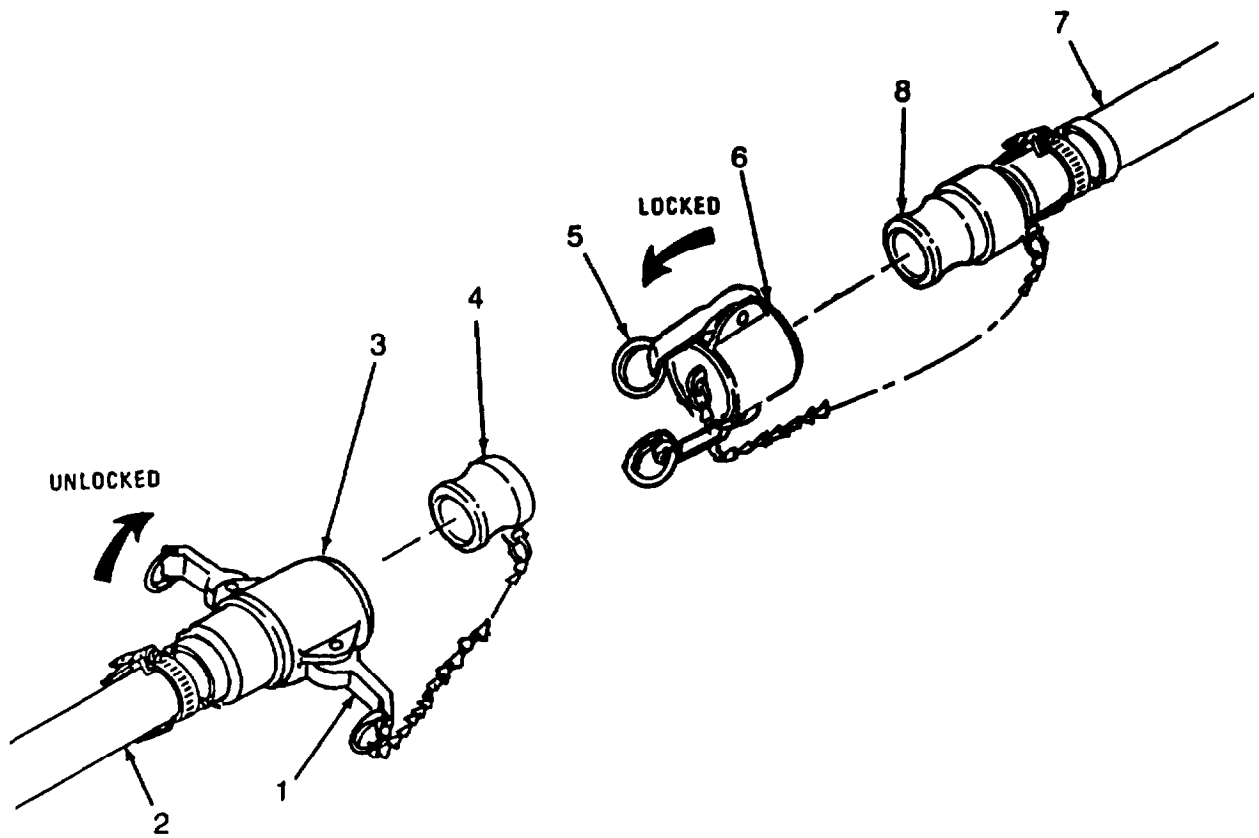

Figure 2-35. Quick Disconnect Couplings.
- n. Quick Disconnect Couplings. Refer to figure 2-35.